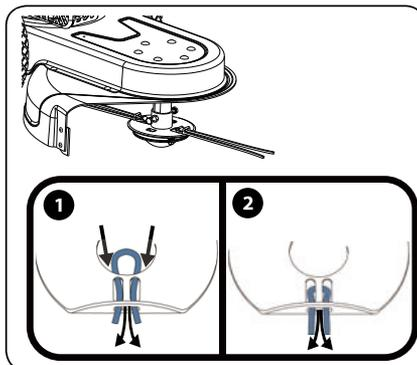

Figure 5-3.
4. Cross the line ends and pull each tightly to secure the trimmer line in place. See Figure 5-3.